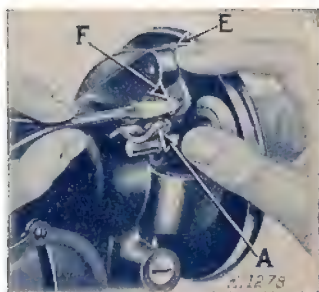

FIG. 6. ADJUSTMENT OF BOBBIN WINDER
If the pressure of the bobbin winder pulley against the hub of the balance wheel is insufficient for winding the bobbin, press down the bobbin winder until the latch (A) drops down and holds it, then loosen the adjusting screw (F). With the forefinger, push back the upper end of the slotted plate (E) as far as it will go, as shown in Fig. 6, and at the same time press the bobbin winder pulley against the hub of the balance wheel, then tighten the adjusting screw (F).